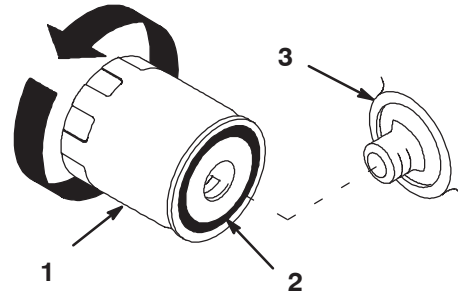

Figure 22
2. Remove the old filter and wipe the filter adapter (Fig. 22) gasket surface.
5. Apply a thin coat of new oil to the rubber gasket on the replacement filter (Fig. 22).
6. Install the replacement oil filter to the filter adapter. Turn the oil filter clockwise until the rubber gasket contacts the filter adapter, then tighten the filter an additional 1/2 turn (Fig. 22).